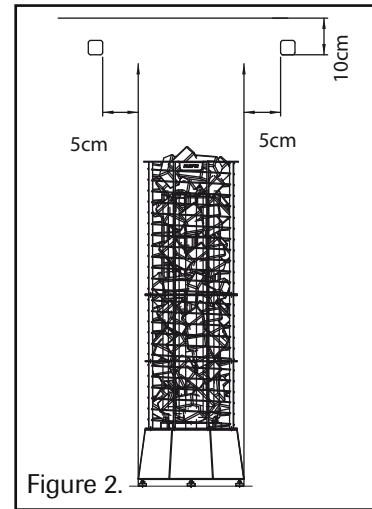

Figure 2.
- Install the sensor in the location indicated in figure 2.